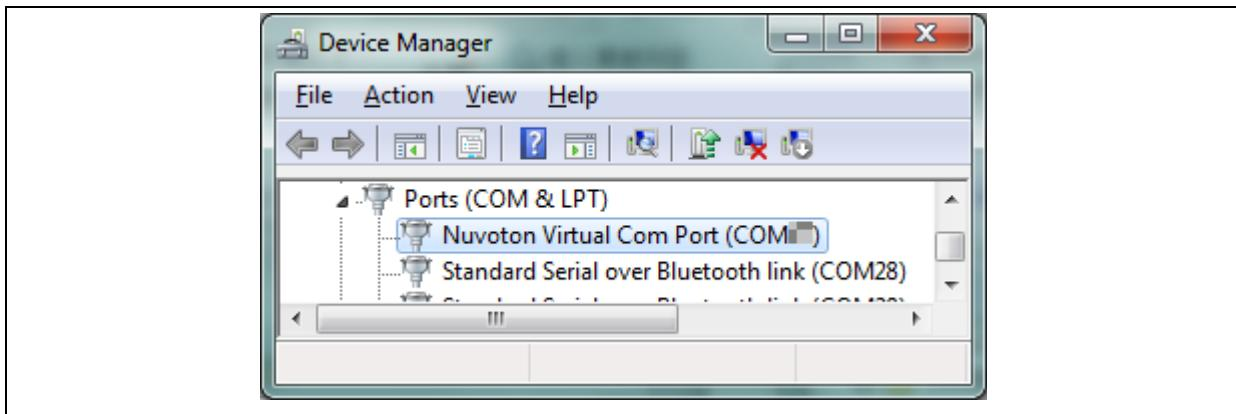

Figure 5-15 Device Manger
4. Find the “Nuvoton Virtual COM Port” on the Device Manger as Figure 5-15.